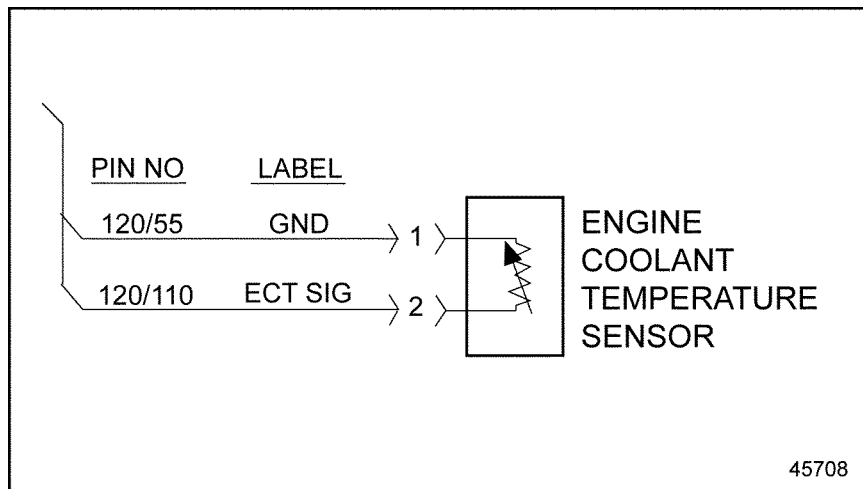

Figure 9-2 Engine Coolant Temperature Sensor Wiring
- 6. Disconnect the 120-pin MCM connector. Measure the resistance between pins 1 and 2 of the ECT Sensor harness connector. See Figure 9-2.
3. Measure the resistance across pins 1 and 2 of the ECT Sensor connector. See Figure 9-2.